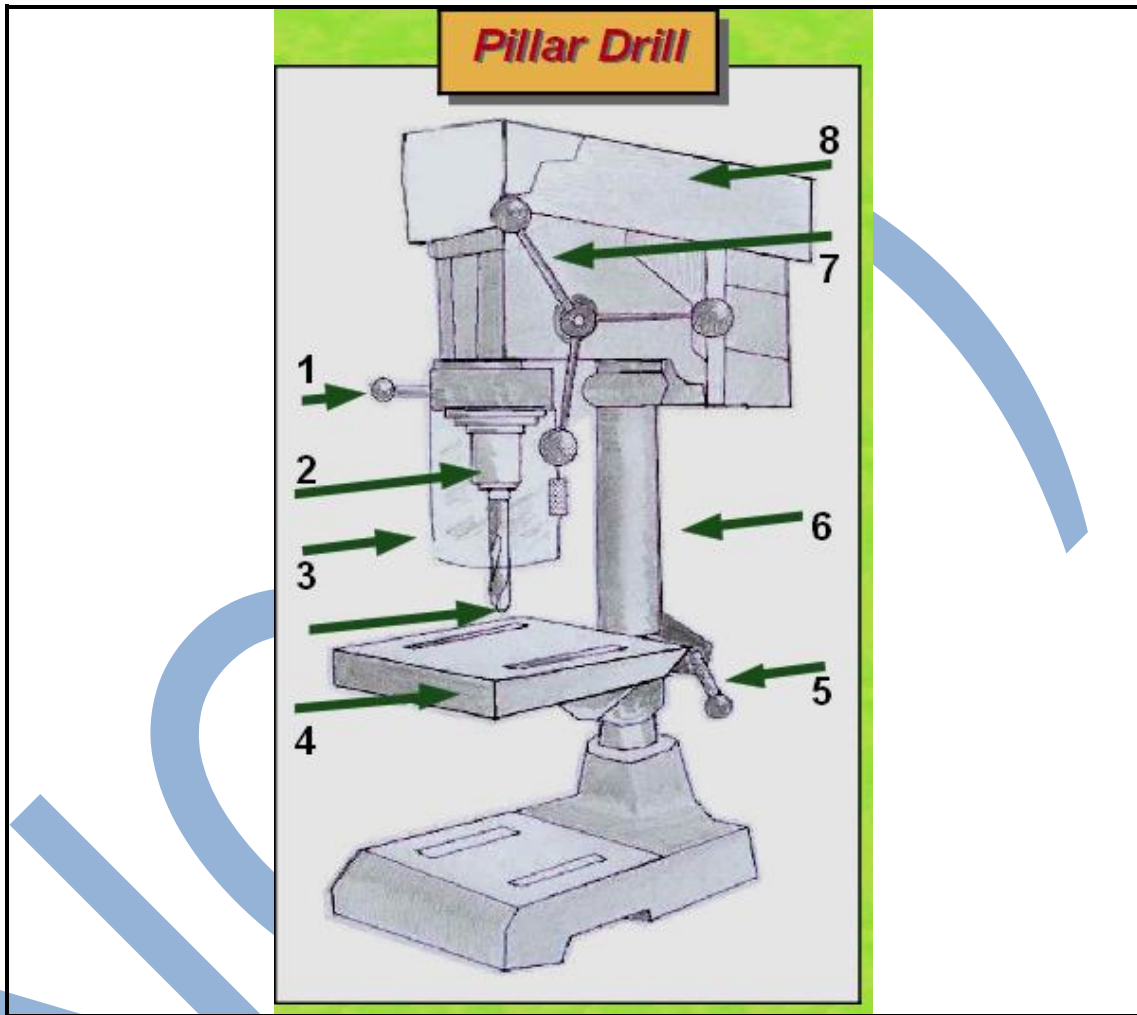

FIGURE 1
4.7 Label the parts of the pillar drill (1–8) shown in FIGURE 1 below. Write only the name next to the numbers (1–8) in the ANSWER BOOK.